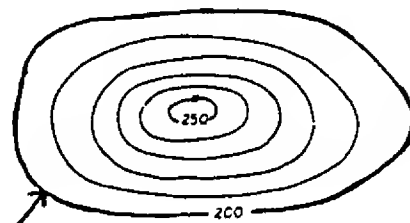

Figure 276 Index Contour
1. Index Contours are the heavy brown lines. Every fifth line on the map sheet is usually an index contour line and it is labeled with its altitude where space permits. In the example in Figure 276, the 200-foot index contour is indicated by the arrow. Since contours connect points of equal altitude, any point along this contour would have an altitude of 200 feet. The X in the figure indicates a point of 250 feet.